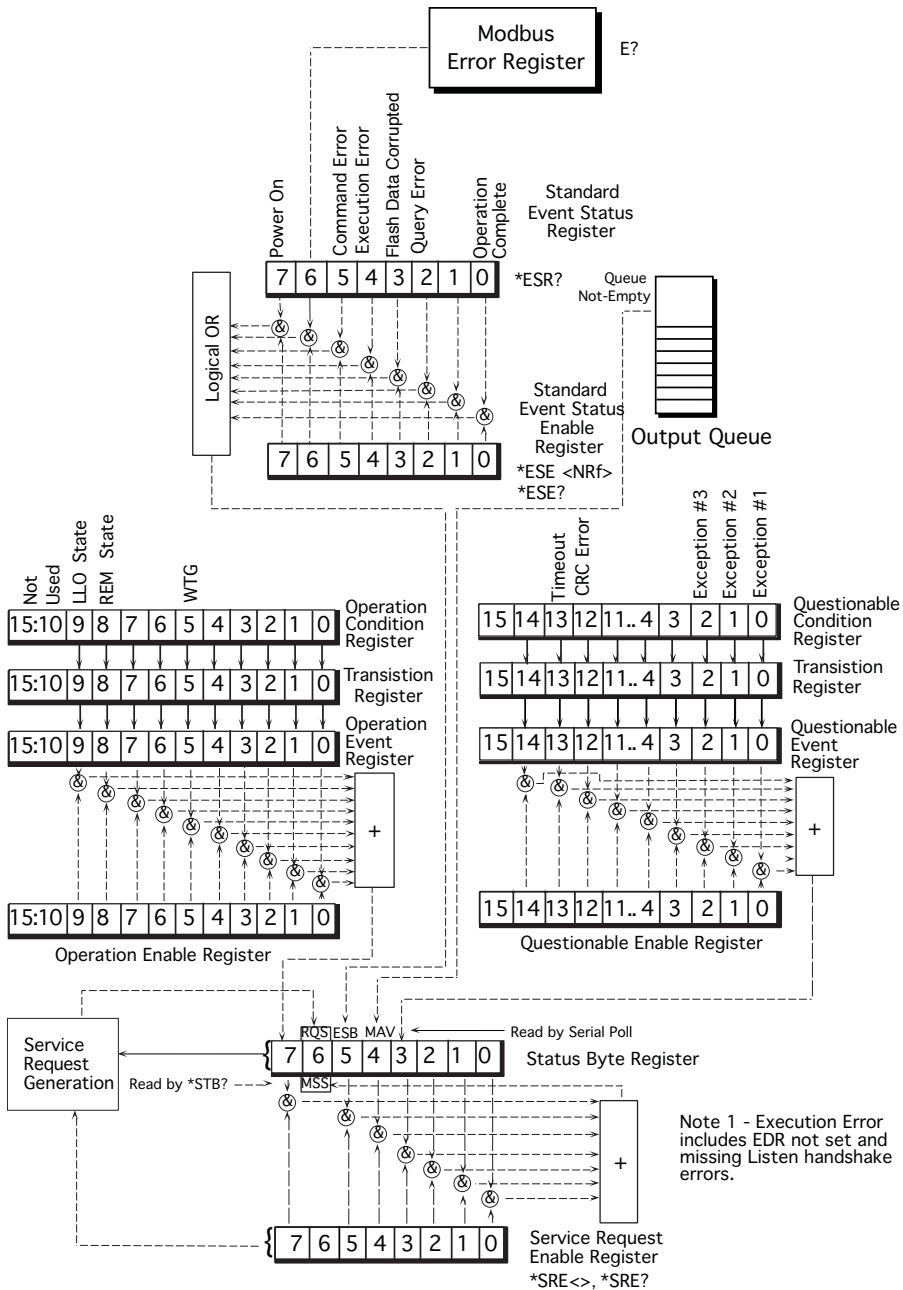

Figure 3-1 Status Reporting Structure
If the message was not a valid message, or was an exception message, or was missing, then the 8099 sets the appropriate bit(s) in the Questionable Condition Register, puts a decimal value in the Modbus Error register and sets bit 6 in the ESR Register. Both registers are part of the 8099's Status Reporting Structure. See Figure 3-1. If the appropriate register enable bits are set true, then the Service Request bit will be set and generate a `device_intr_srq` message (SRQs). The `device_intr_srq` messages are sent to the Application over the reverse Interrupt channel. The user can then serial poll or query the Status Byte to determine the cause of the Service Request. Refer to Application Bulletin AB80-4 for information on handling RPC Interrupts.
The 8099 has the expanded IEEE-488.2 status reporting structure shown in Figure 3-1. The expanded status reporting structure conforms to the SCPI 1994.0 Specification and builds on the IEEE 488.2 Standard Status Reporting Structure by adding the Questionable and Operation registers. The Event and Status registers are controlled and queried with the IEEE-488.2 common commands. The Status Byte Register may also be read by serial polling the card. The Questionable and Operation registers are controlled and queried with SCPI commands. The Modbus Error register is read and cleared with the Modbus E? command.
The Questionable Registers lets the user read bits that report CRC errors, Exception message types or a timeout (no response message received). Bit alignments are shown in Figure 3-1. The Questionable Transition Register filters the inputs and passes only the enabled state changes to the Questionable Event Register. The Questionable Event Register bits becomes true (1) when the positive transition bit is enabled and the associated condition register bit makes a 0 to 1 transition. When both transitions are selected for the same bit, the